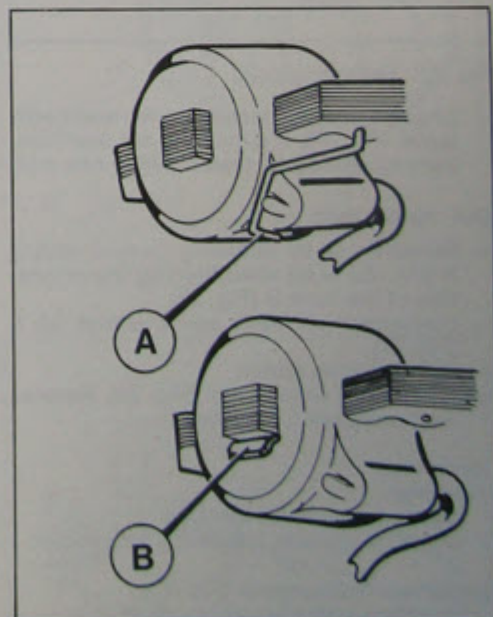

Fig. 20 Coil retaining methods
- Remove coil by releasing retainer spring A (Fig. 20) or by straightening the lamination of the core B (Fig. 20).